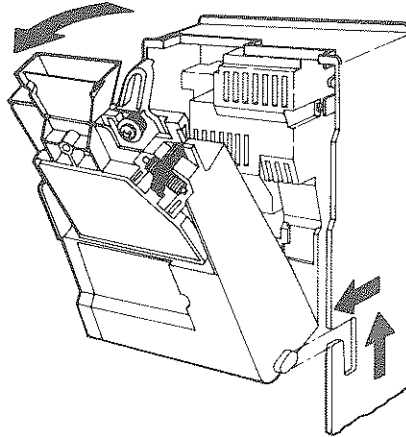

Fig. 3. Removing the Acceptor
- Install an Accessory Harness if an accessory will be used. To install the Accessory Harness, disconnect the Acceptor/Control Board 9-position ribbon cable from the back of the Acceptor. Remove the Acceptor by grasping the Coin Cup. Slide the Acceptor up and forward until the Acceptor tabs clear the Housing mounting slots (Fig. 3).